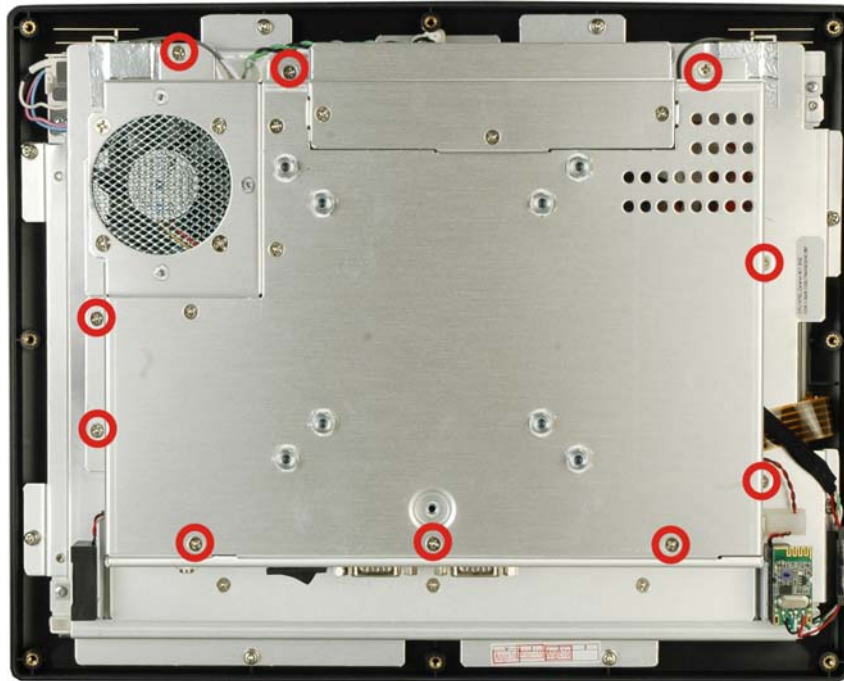

Figure 3-4: AFL-12B-9103-R10 Cover Retention Screws
Step 2: Remove the retention screws securing the internal aluminum cover (**Figure 3-4**) and lift the aluminum cover off the panel PC.